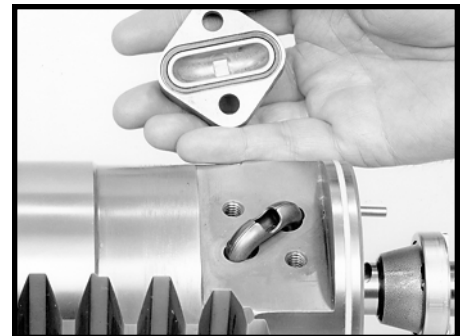

Figure 109
9. If your gear is equipped with the ball return guide cap (48), instead of the clip, grease the ball return guide cap seal (47) and place it in the seal groove of the cap. Assemble the cap so that the seal makes full contact with the rack piston surface. SEE FIGURE 109. Install two new Allen or Torx head bolts (49) and torque them to 14-22 ft. lbs. (19-30 N m). A 5/32 inch Allen socket or T-30 Torx socket required.